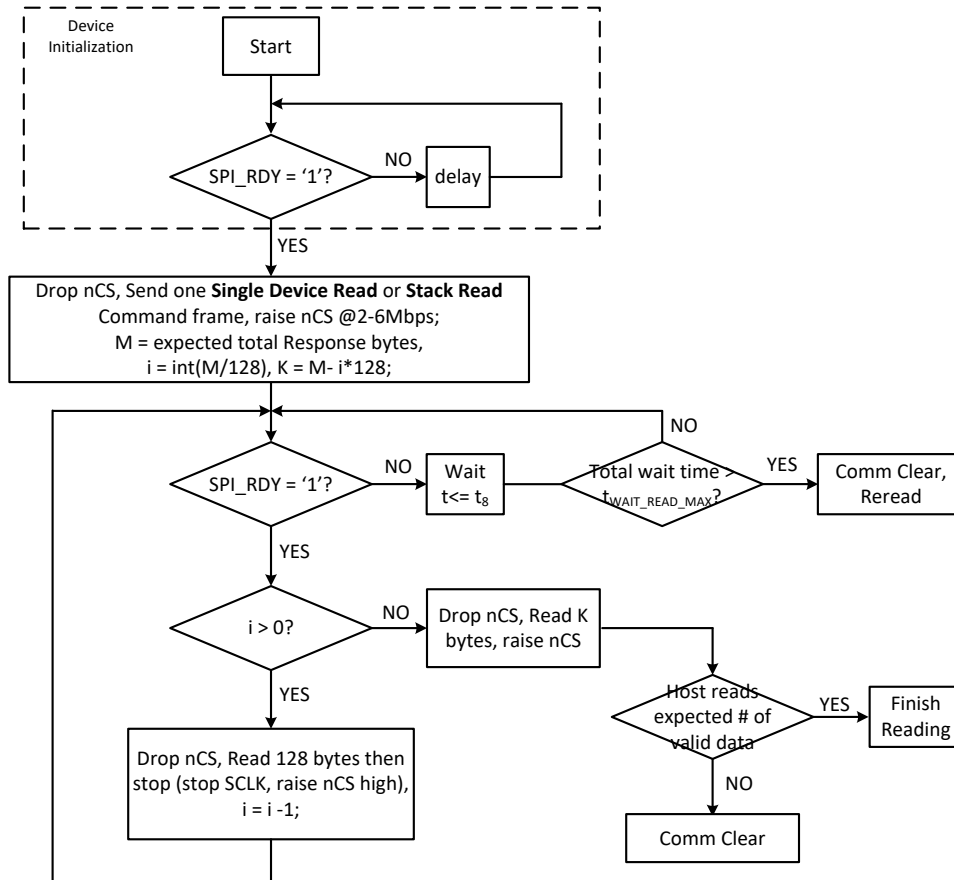
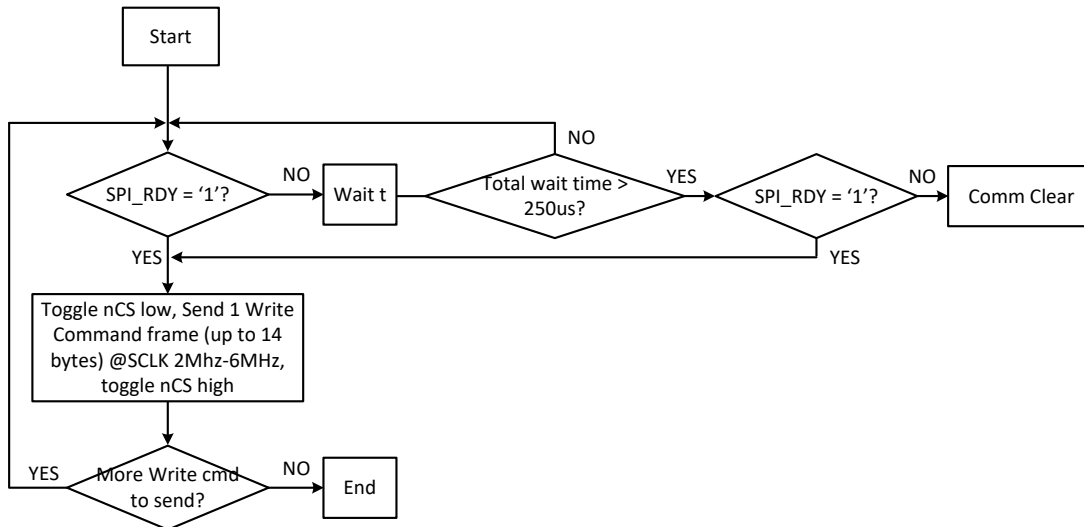

Figure 7-16. Flow Chart to Read from Device
Figure 7-17. Flow Chart to Send Write Command Frame to Device
- To avoid collisions on the daisy chain interface, the MCU must wait until all expected response frames are received (or waiting timer expires) before sending another command frame to bq79600. Refer to flow chart in Figure 7-16.
User shall follow flow chart Figure 7-16 to do read from device and Figure 7-17 to do write to device activities.
- SPI_RDY being low exceeds expected time, either $t_{SPI_RD_WAIT_MAX}$ in READ mode in Figure 7-16 or when 220 μ s while sending write command frame into device. Don't send Comm Clear before this wait time has elapsed.